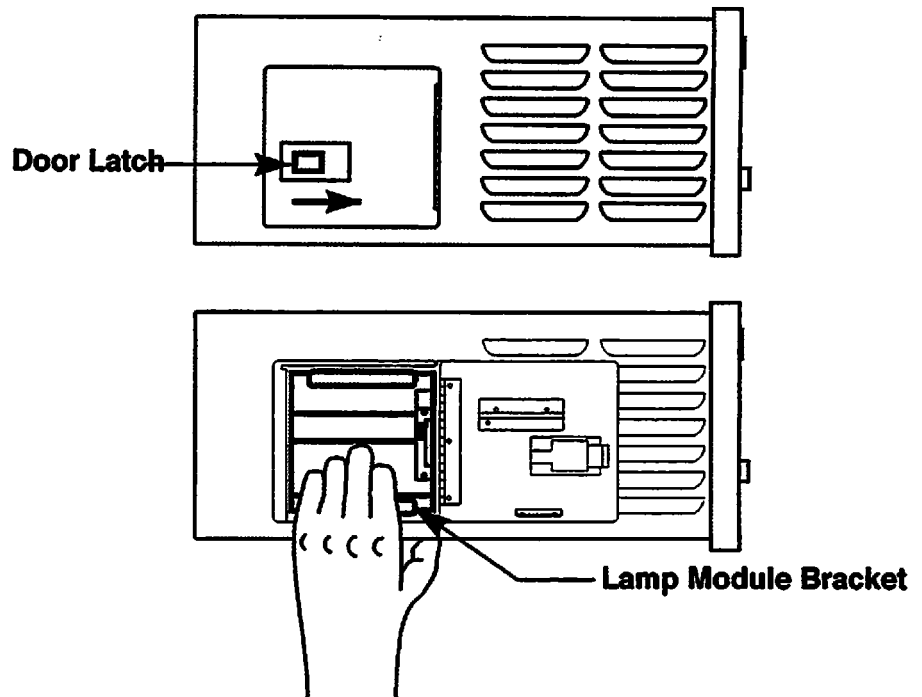

Figure 3-2 Replacing the Lamp Module
3. Access to the lamp module is achieved through the door on the left side of the chassis (reference figure 3-2).